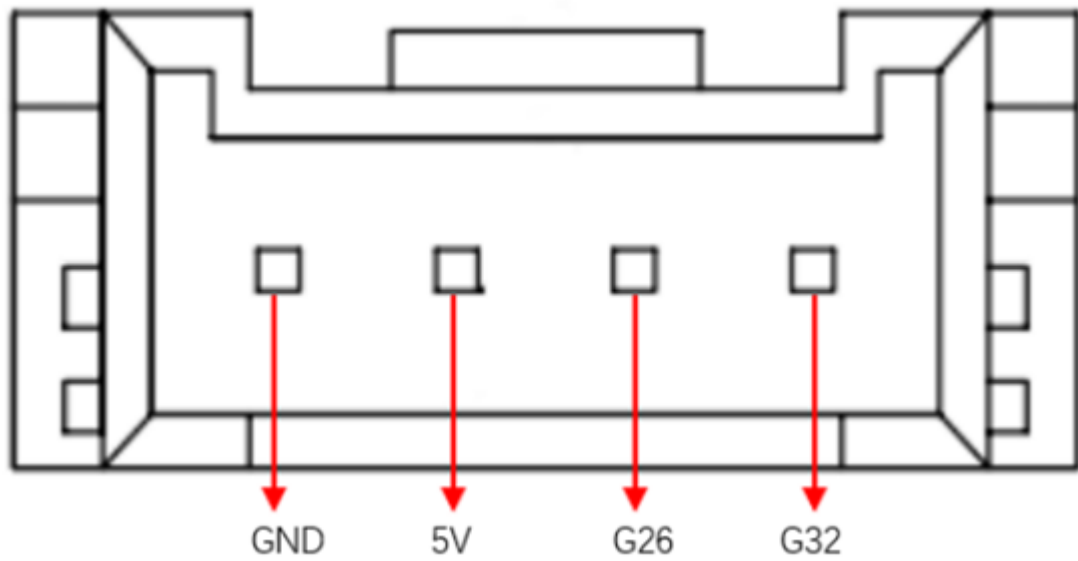

图2-2 Grove port 4
- C. Grove interface 4: Figure 2-2 shows the definition of Grove interface 4